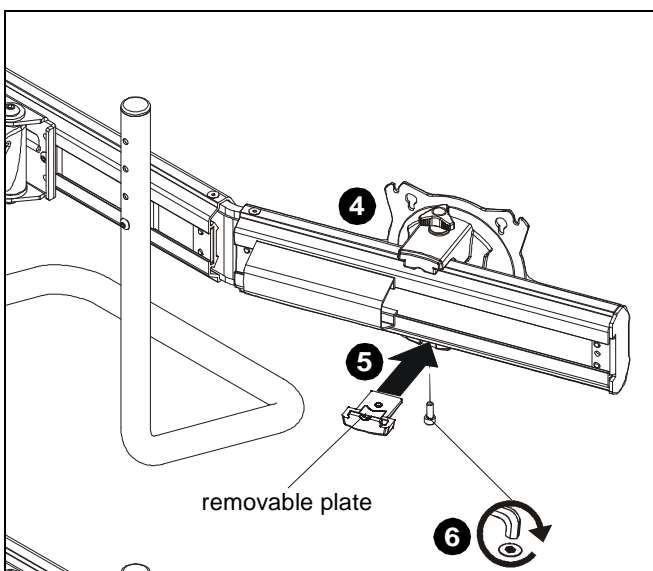

Figure 13
4. Place faceplate assembly on array arm at desired mounting position. (See Figure 13)
5. Slide removable plate back into slot at bottom of faceplate assembly. (See Figure 13)
6. Reinstall socket head cap screw removed in Step 1 to secure faceplate assembly to array arm. (See Figure 13)